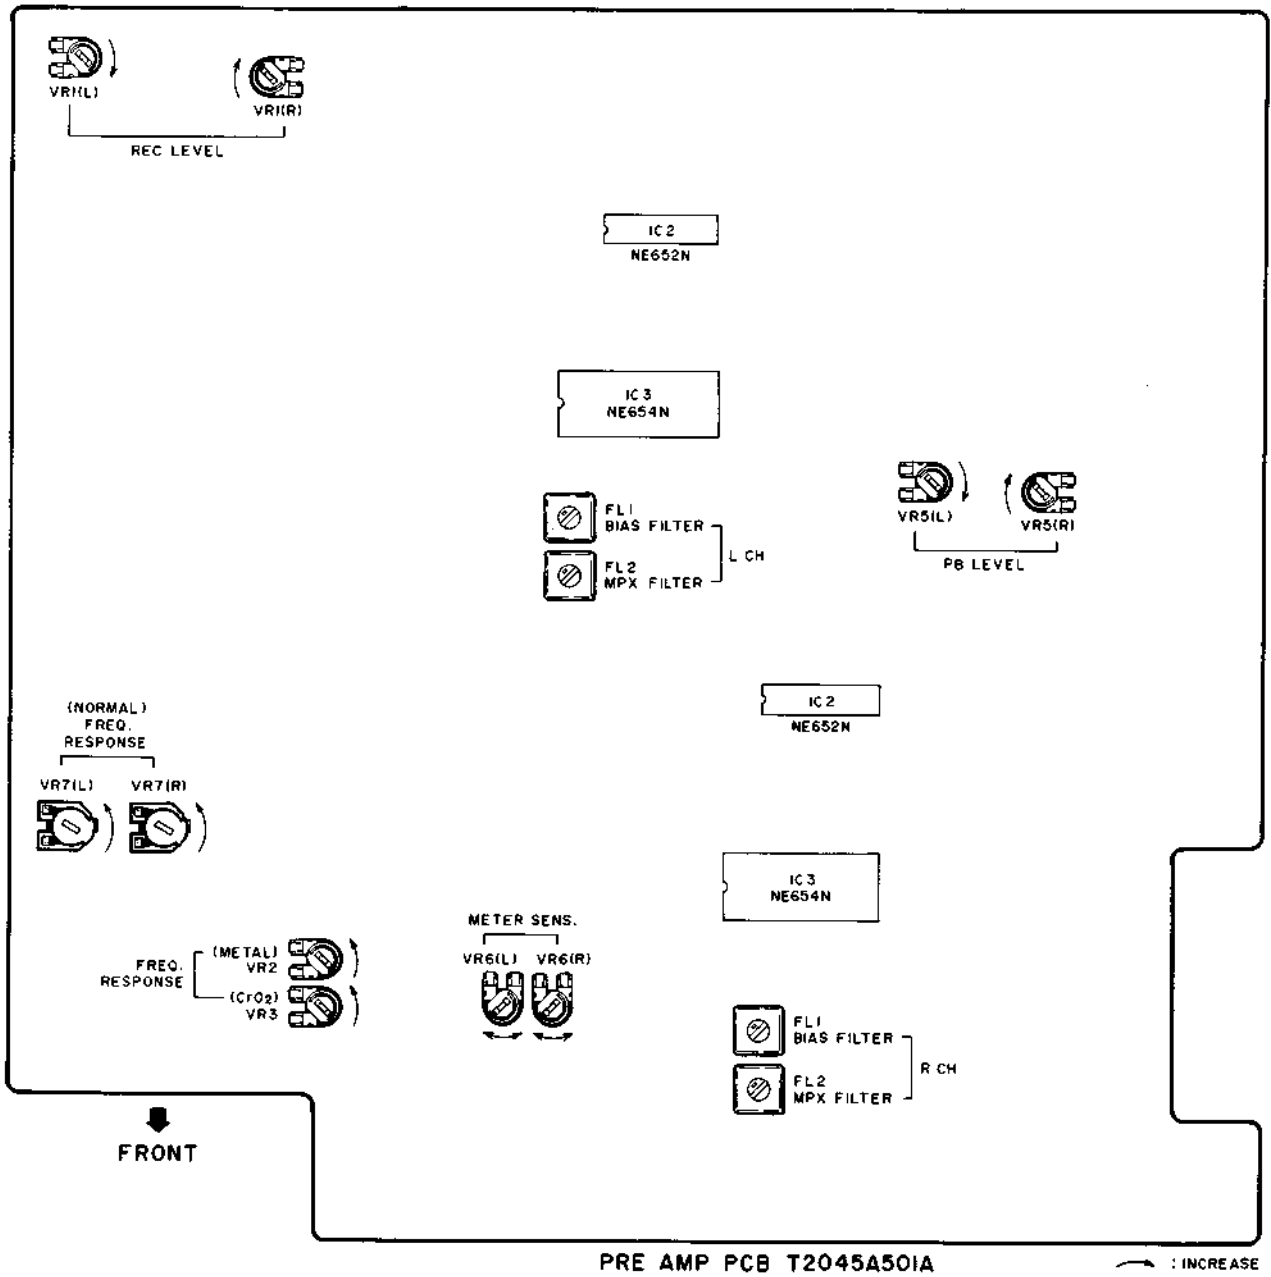

Fig. 7-3 HX-R44 Pre-Amp PCB ADJ Point
4. Refer to Fig. 7-3, for above adjustments